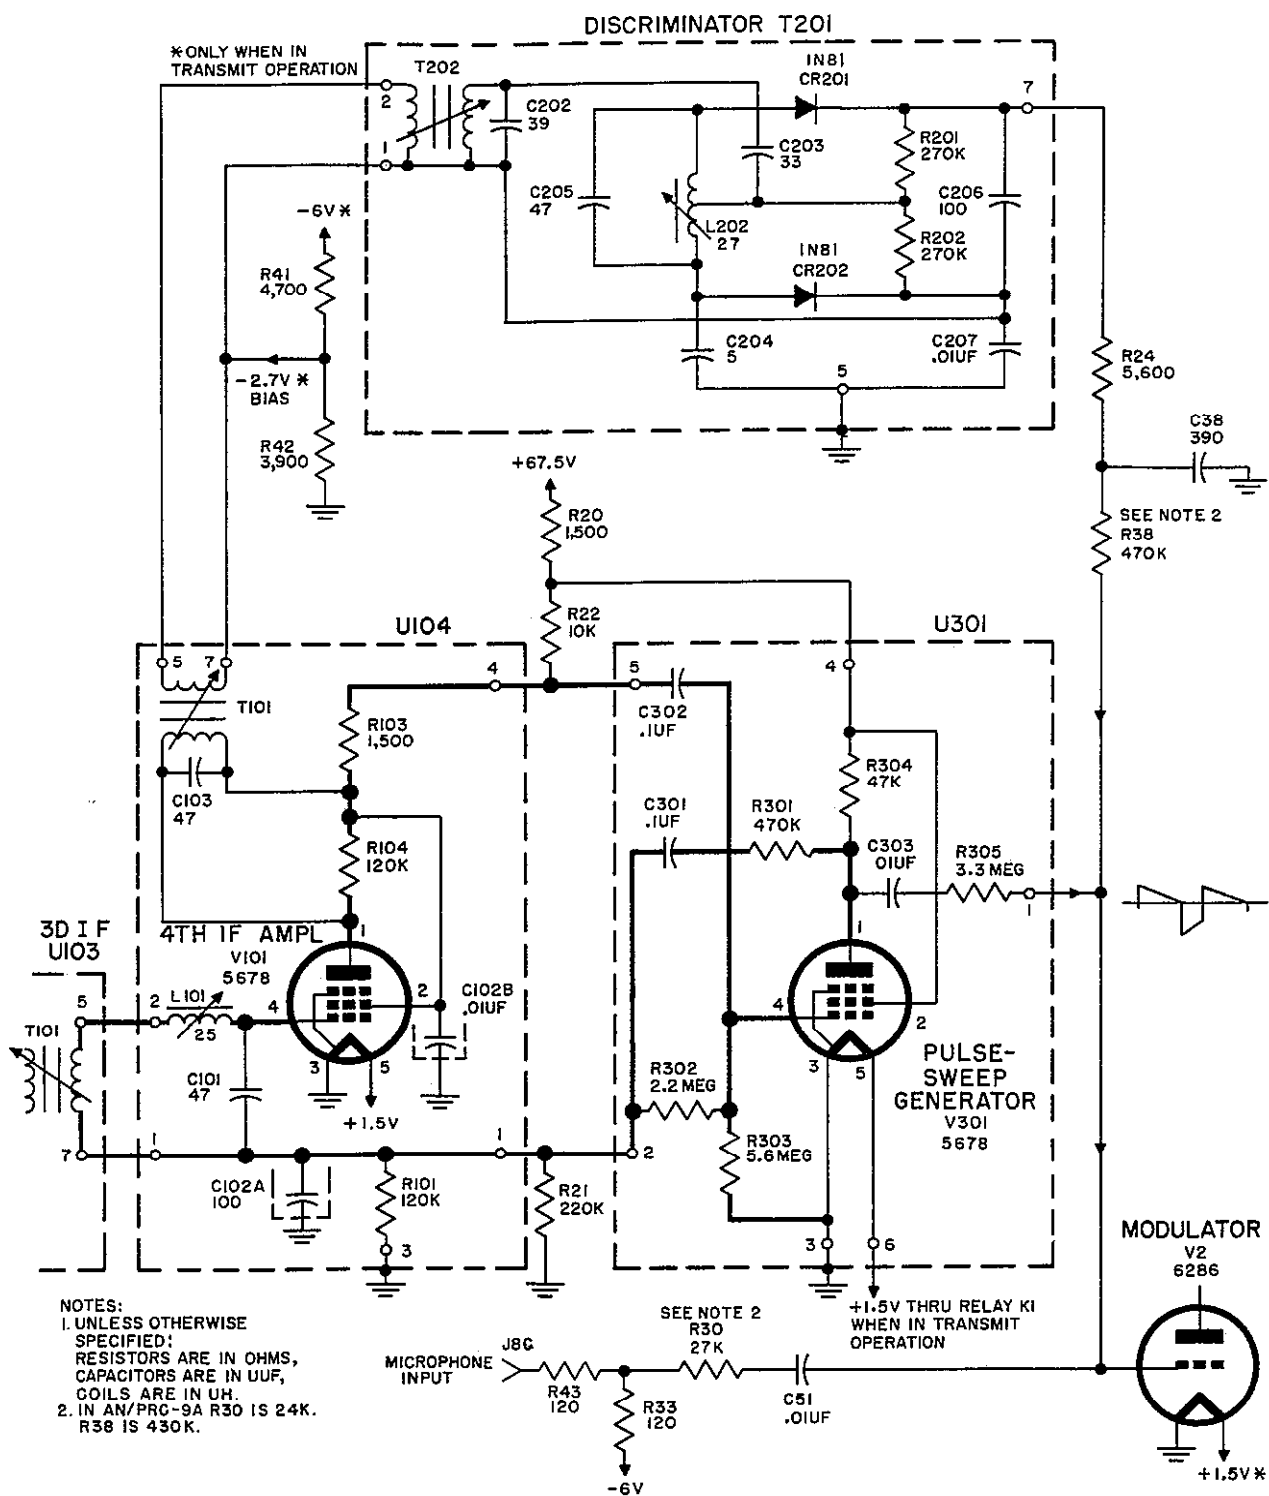

Figure 19. Transmitter frequency control diagram.
- (1) Filament voltage is connected to V301, and the tube begins to conduct. The drop in voltage occurring at the plate of V301 is coupled through R301 and C301 back to the grid circuit of V101 (in U104), and keeps this stage cut off. However, as the negative charge leaks off C301 through R101 and R21 (fig. 19), the first stage (V101 in U104) of the multivibrator circuit begins to conduct. The drop in voltage occurring in the plate circuit of this stage is coupled back through C302 to the grid of V301, and cuts off V301 to complete the multivibrator cycle. The cycle repeats when the negative charge leaks off C302 (through R303, R302, R21, and R101) and V301 again begins to conduct. The repetition frequency is very slow, approximately 5 cycles per second. Usually, after a second or two, the transmitter oscillator is sufficiently stabilized and operating at its correct center frequency. An afc signal will then be coming through the if. stages and, when this signal gets to develop approximately 8 volts of nega-
- (2) The multivibrator output has a rectangular voltage wave form at the plate of V301. This rectangular wave is differentiated by C303 and R305. The high value of R305 and the other components in the circuit through which the voltage is returned to ground limits the differentiating action. The resultant output wave form applied to the grid of modulator V2 is therefore a voltage of slowly varying amplitude (fig. 19). In effect, this signal can be considered as a saw-tooth voltage which continuously varies the modulator bias to sweep the transmitter oscillator over a wide frequency range.
of fourth if. amplifier V101 to cut off V301 and stop multivibrator action. Capacitor C302 provides the feedback path from the plate circuit of V101 (in U104) to the grid of V301, and capacitor C301 and resistor R301 provide the feedback path from the plate of V301 to the grid circuit of V101 (in U104). Resistor R301 is included to increase the time constant of the network which controls the length of time V101 (in U104) is held to cut-off. This is roughly about one-third the interval that V301 is held to cutoff by the time constant of C302, R303, and R302. Plate voltage is applied to V301 through decoupling resistor R20 and load resistor R304. Capacitor C303 and resistor R305 form a differentiating network which shapes the rectangular multivibrator wave form to the desired output. Filament voltage to V301 is applied through contacts 8 and 9 of relay K1 when the radio set is in transmit operation. Resistor R22 (fig. 19) is inserted in the plate supply circuit of V101 (in U104) and resistor R21 is shunted across grid-leak resistor R101 to permit the multivibrator operation of fourth if. stage U104 with pulse-sweep generator stage V301.
d. Modulator tube V2 obtains its bias voltage through discriminator T202 (fig. 19) from the junction of voltage-dividing resistors R41 and R42, across the negative 6-volt supply to ground. This bias voltage, filtered by capacitor C38, is indirectly fed to the grid of V2. The voltage at the plate of V2 (fig. 16) is obtained through R5 from the 135-volt supply through contacts 5 and 6 of receive-transmit relay K1 (closed only during transmission). The filament voltage is obtained from the 1.5-volt supply through contacts 8 and 9 of relay K1 (closed only during transmission). The modulator therefore operates only during transmitting periods.
23. Transmitter Frequency Control (fig. 19)